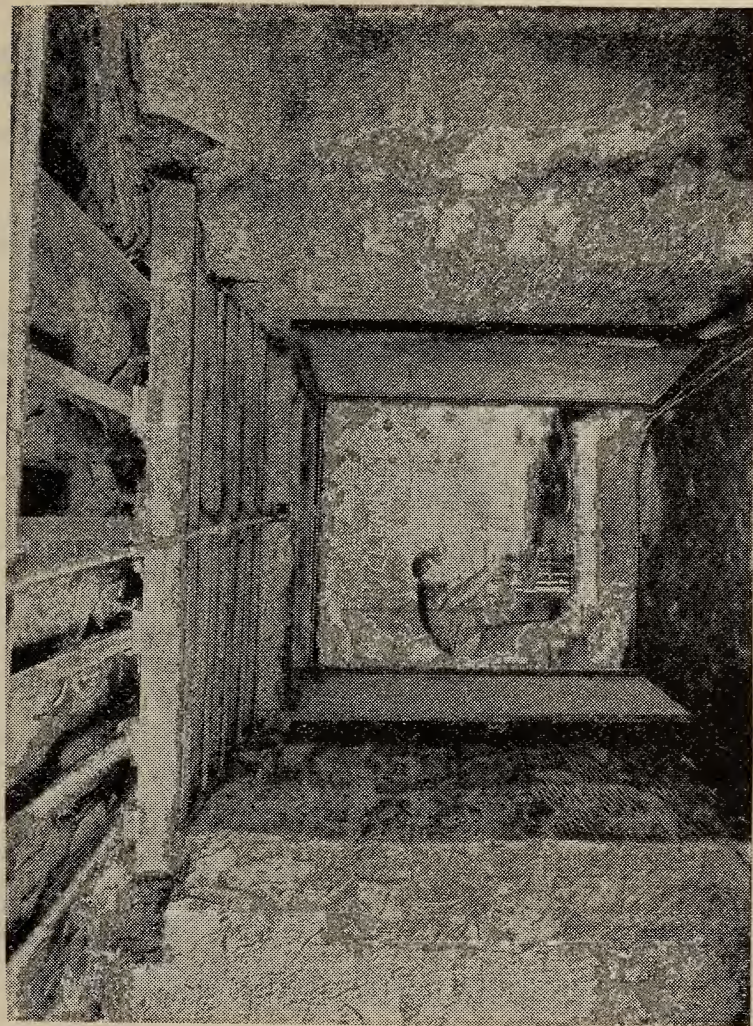

FIGURE 1.—Oil fires can be prevented by storing the oil in clean, fireproof storage houses equipped with steel doors.
A. Oil, grease, and rubbish. (See fig. 1.)